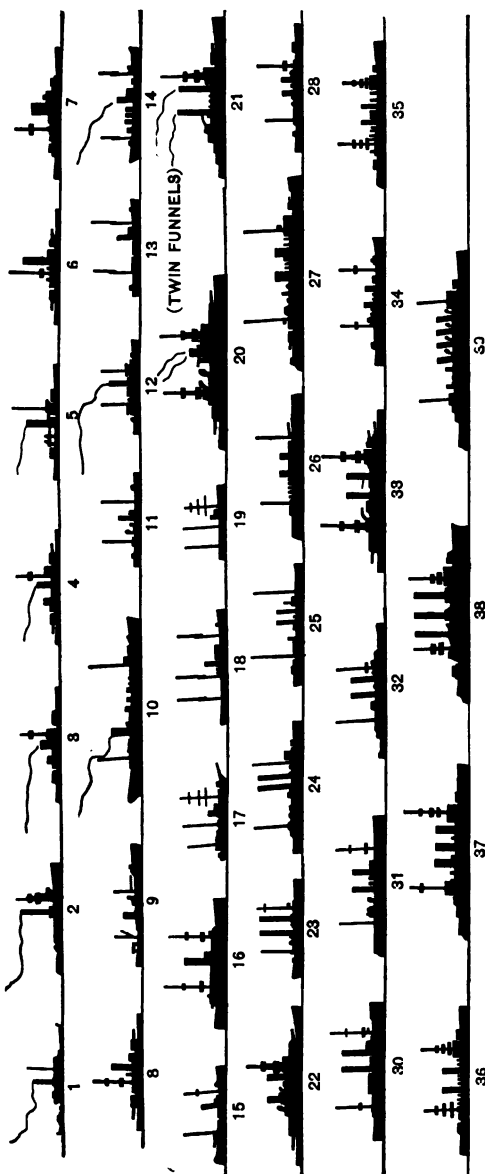

FIG. 86.
Q. How are ships of the U. S. Navy distinguished, knowing their names? (See Fig. 86.)
Q. From the silhouettes on Fig. 86, Ships of the U. S. Navy, find a battle-ship, a high-speed cruiser, a gunboat, a coast-defense monitor.
Q. Find from Figs. 86 to 93 inclusive, a battle-ship, cruiser, monitor, and gunboat of the navies of Germany, France, England, Japan, and Russia.
A. Six-inch penetrates 3 inches; eight-inch, 5 inches; ten-inch, 7 inches; twelve-inch '95, 10 inches; twelve-inch 1900, 12 inches. (See Armor-attack Sheet, Fig. 86.)